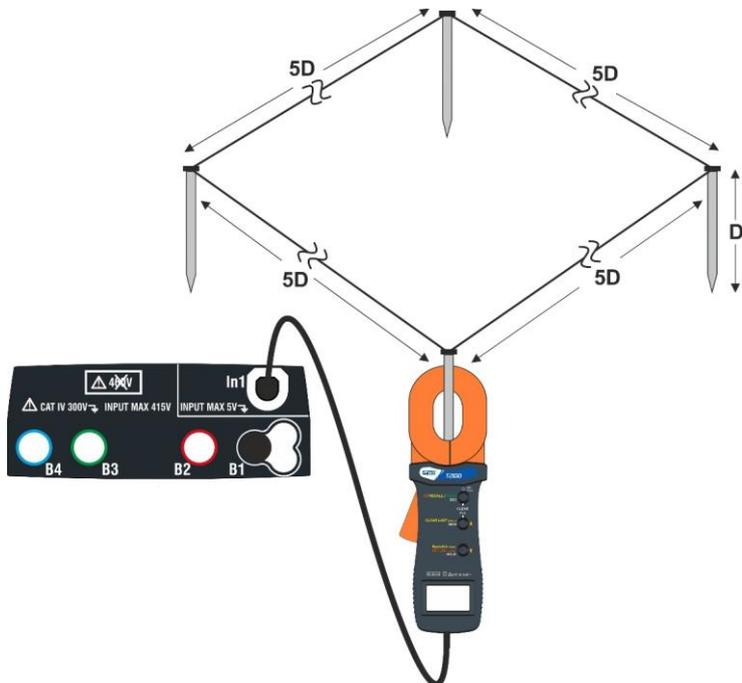

Fig. 32: Resistance measurement of single rods with clamp T2100
The measurement carried out by clamp T2100 can be used to evaluate single rods resistance values within an earth installation without disconnecting the rods, **assuming they do not affect each other** (see Fig. 32).
4. Connect the clamp to the first rod of the earth network considered as shown in Fig. 32. Note the value of the resistance in the **R** field and press the icon to insert this value in the calculation of parallel resistance and increase the **N** parameter by one unit (**N** =1)